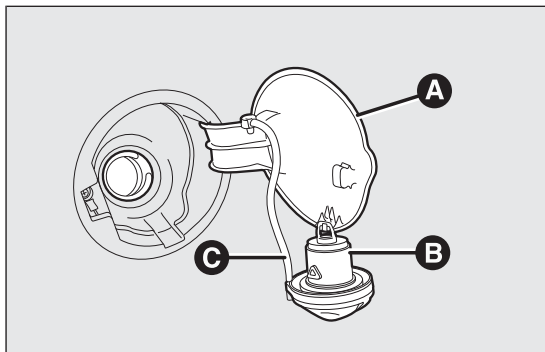

fig. 95
1) Open the flap A fig. 95 by pulling it outwards, keep the cap B fig. 95 still, insert the ignition key in the lock and turn it anticlockwise.
The cap has a device C fig. 95 that attaches it to the flap so it cannot be lost. When refilling, attach the cap to the flap, as illustrated.